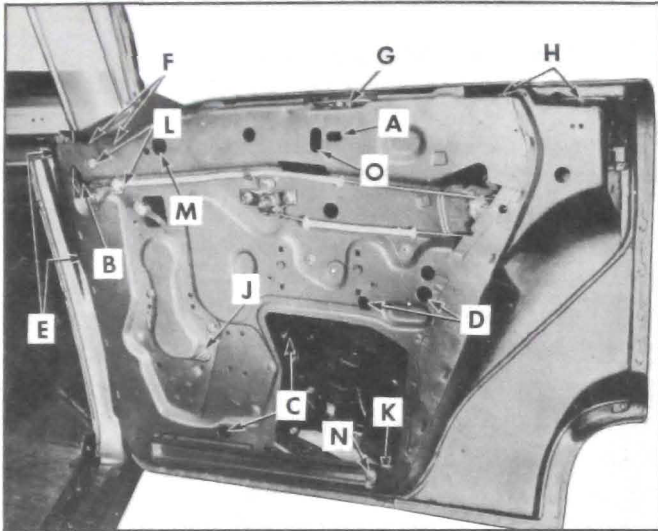

Figure 13-58—Rear Door Window Removal—Models 43-63
2. With window in "up" position, remove window lower sash channel stop attaching screws through access hole "A" and loosen window female wedge plate attaching screw through access hole "B," shown in Figure 13-58.
3. Lower window and remove window lower sash channel front cam attaching screws through access holes "C," and rear cam attaching screws through access holes "D," shown in Figure 13-58. Detach cams from window regulator arms and remove cams from door. Remove female wedge plate.
4. Loosen window front guide attaching screws "E" located on door hinge pillar and window guide cam upper attaching screws "F." Remove window cushion and adjusting plate attaching screws "G" and remove cushion and adjusting plate. (See Figure 13-58.)
1. "In" or "out" adjustment of lower front portion of window—Remove door belt finishing molding, then with window in FULL UP position loosen front guide upper and lower attaching screws "E" at door hinge pillar. Loosen window guide cam upper attaching screws "F." Move upper end of guide cam and the lower front end of the window "in or out," as required; then tighten guide cam and front guide attaching screws. (See Figure 13-58.)
NOTE: *Check that cushion is making proper contact with the window lower sash channel stop. If necessary, loosen cushion adjusting plate attaching screws at "G" and position adjusting plate and cushion "in or out" for proper contact with stop. (See Figure 13-58.)*
3. "IN or OUT" adjustment of rear of window—With window in FULL UP position, loosen window rear guide attaching screws "H" shown in Figure 13-58. Position rear guide and rear end of window "in or out" as re-
4. "IN or OUT" adjustment of top of window (for proper contact with side roof rail weatherstrip)—Loosen front guide upper and lower attaching screws "E" at door hinge pillar. Loosen window guide cam center attaching stud nut "J." Adjust guide cam stud "in or out" as required for proper window frame contact with side roof rail weatherstrip; then tighten stud nut. With window in FULL UP position, tighten front guide attaching screws at "E." (See Figure 13-58.)
6. "UP or DOWN" adjustment of front of window—Loosen window front guide upper attaching screws "L" and lower attaching screws "N." Loosen window lower sash channel front cam rear attaching screw through access hole "M." Position front of window "up or down" as required; then tighten cam attaching screws at "L," "M" and "N." With window in FULL UP position tighten window front guide attaching screws at "E." (See Figure 13-58.)
7. "UP or DOWN" adjustments of rear window—Loosen window lower sash channel rear cam rear attaching screw through access hole "O." Position rear of window "up or down," as required; then tighten cam attaching screw. (See Figure 13-58.)
8. "FORE or AFT" adjustment of window—Loosen female wedge plate attaching screws through access hole "B." Loosen window guide cam upper and lower attaching screws "L" and "N." Position window and upper end of guide cam "fore or aft" as required; then tighten guide cam upper and lower attaching screws. With window in FULL UP position, tighten female wedge plate attaching screw. (See Figure 13-58.)